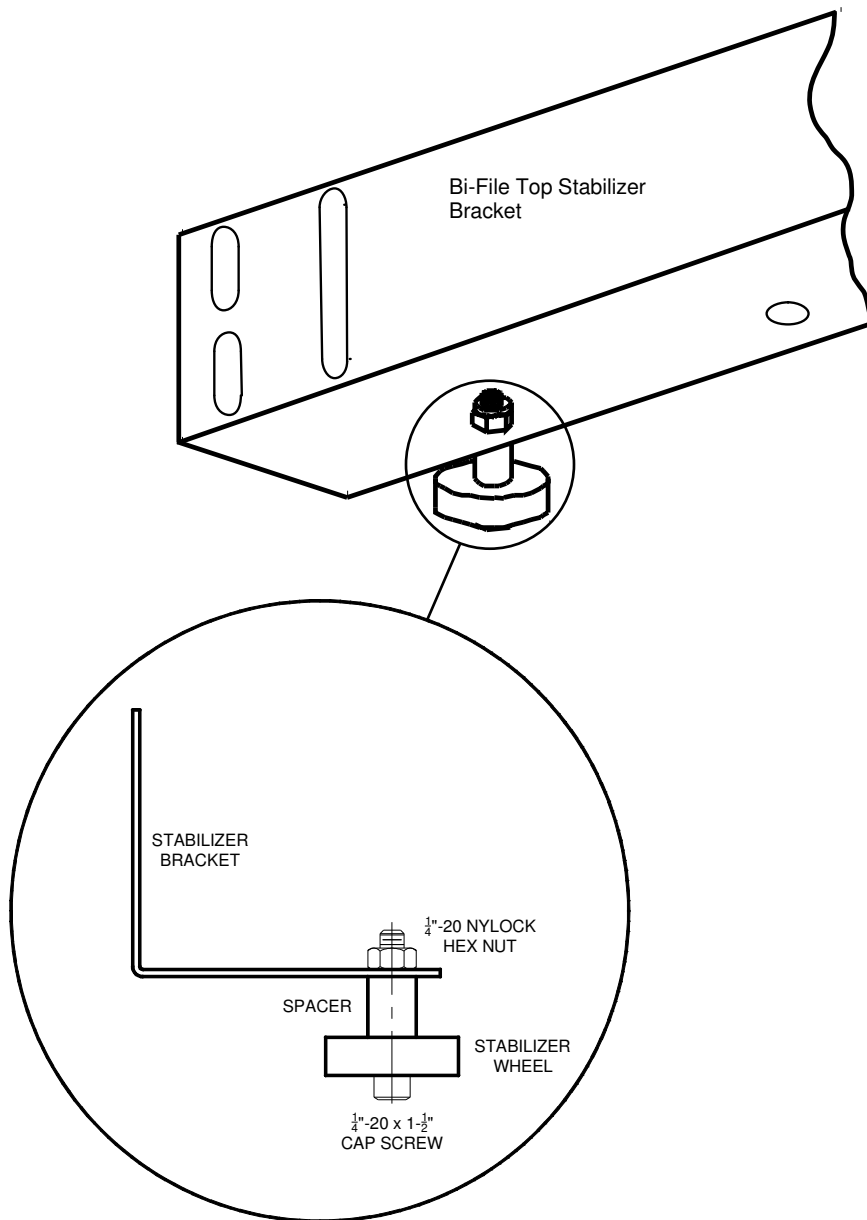

Figure 5
Assemble the Stabilizer Wheel to the Bi-File Top Stabilizer Bracket at both ends of this bracket, using the outer holes. Use the following hardware: two (2) $\frac{1}{4}$ -20 x 1- $\frac{1}{2}$ hex head bolts, two (2) $\frac{1}{4}$ -20 nylok hex nuts, two (2) Spacers, and two (2) Stabilizer Wheels. **See Figure 5.**